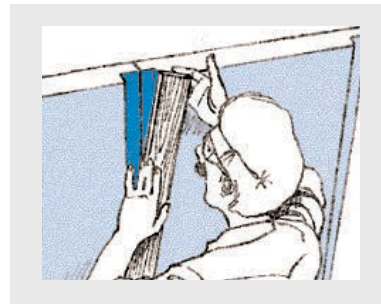

Figure 2
2. Place a 1" x 3" furring strip into the slot between two adjoining boards (Figure 2). Option: Using a 2" x 3" furring strip will provide an air space behind drywall for installation of electrical wiring.